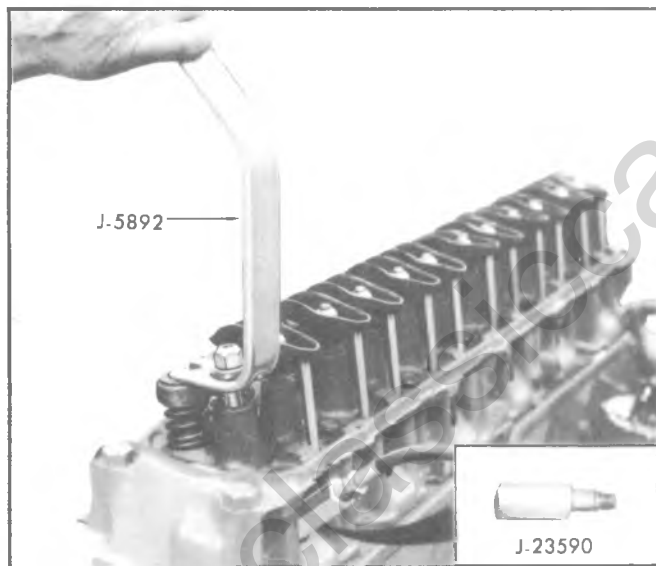

Fig. 6A-13--Compressing Valve Spring
4. Using Tool J-5892 to compress the valve spring, remove the valve locks, valve cap, valve shield and valve spring and damper (fig. 6A-13).